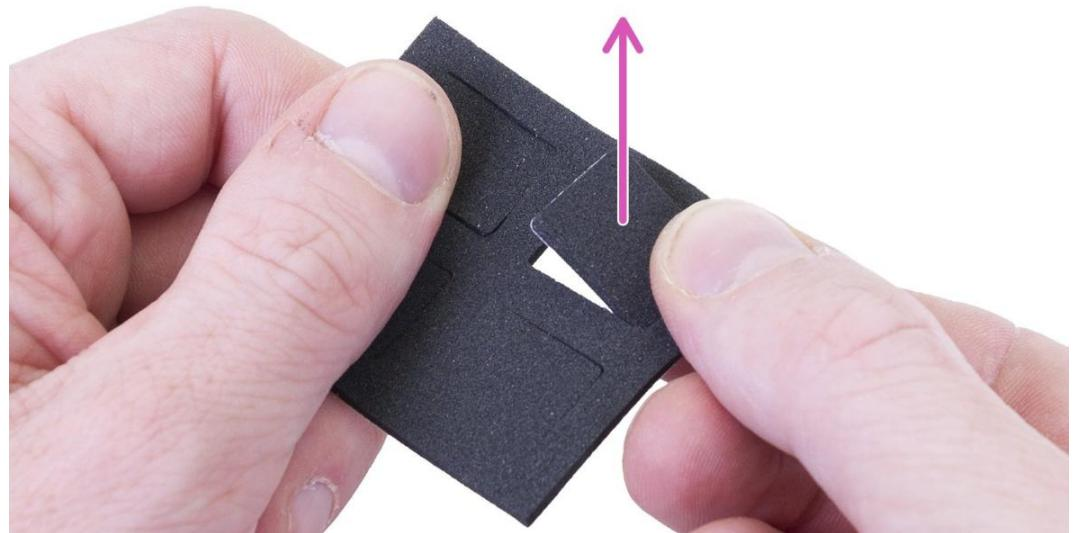

Figure 5.4.10
**A:** As shown in Figure 5.4.10. Grab the bundled anti-slip board and break out four pads.